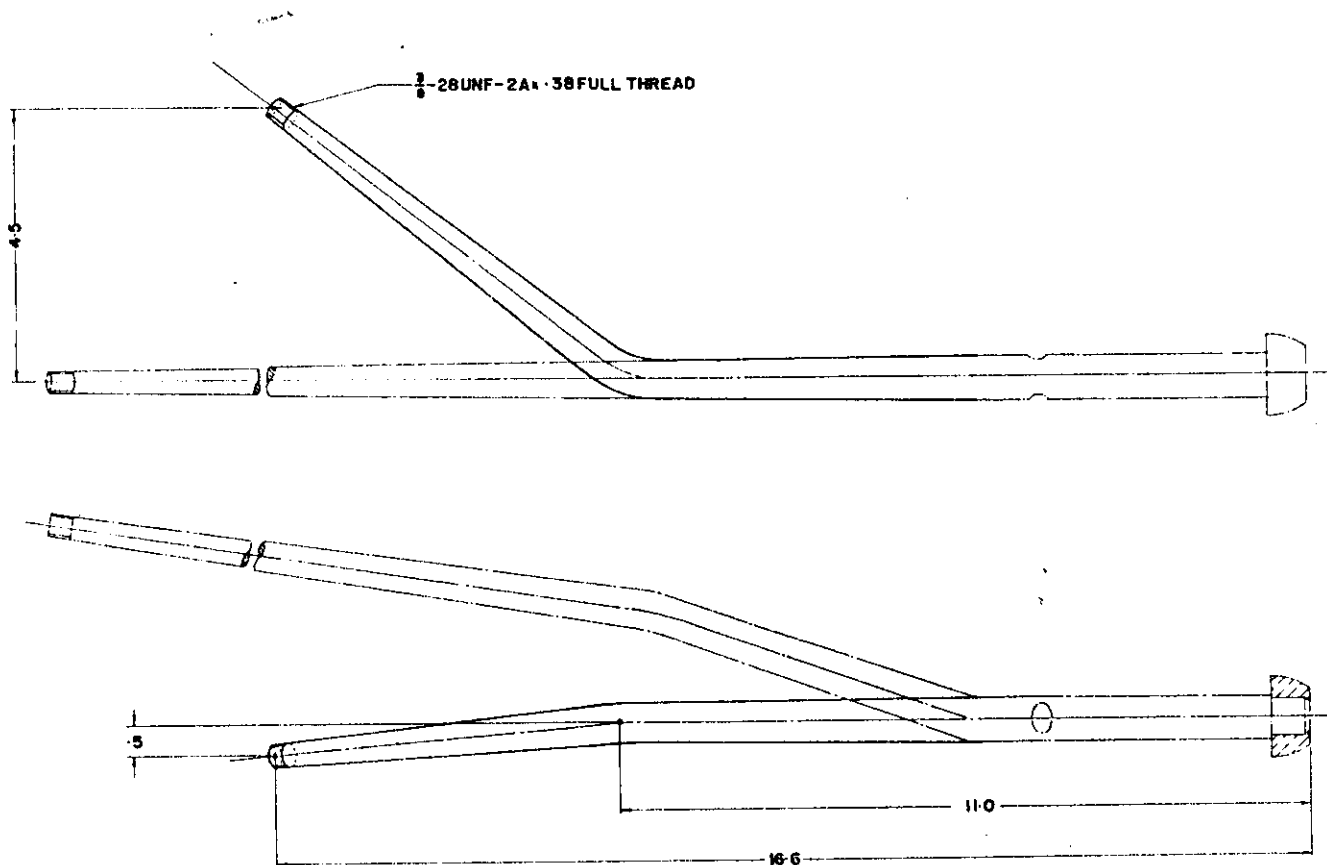

FIG 1 - GEAR CHANGE LEVER
- c. Shorten lever, heat lever and rework as shown in fig 1.